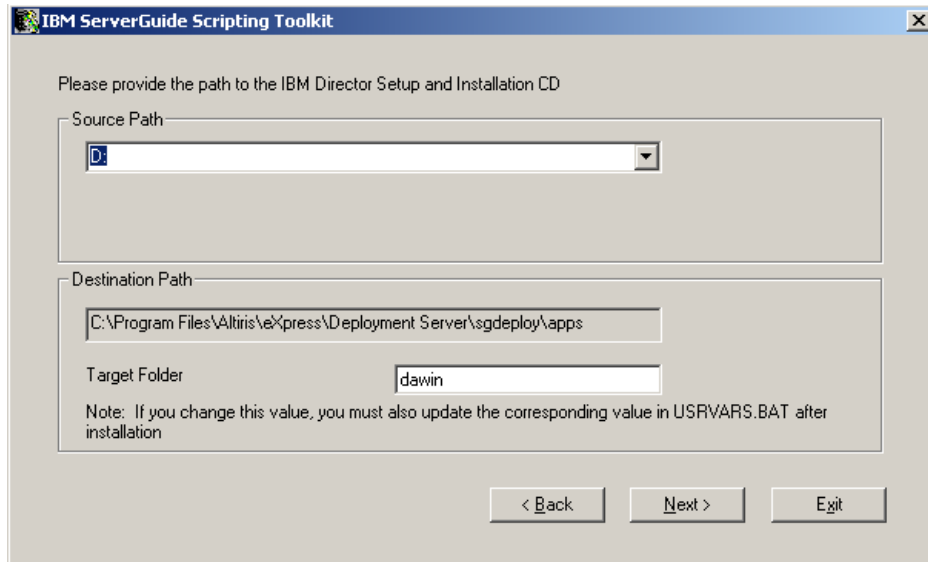

Figure 2-25 Installing the IBM Director Agent from the installation media
3. If you selected to use the installation media as the source of the IBM Directory Agent the window shown in Figure 2-25 on page 39 will load. In the **Source Path** text box, point to the location of the installation media. The **Target Folder** text box lists the folder within the SGTK source tree to save the install files. Click **Next** to continue.